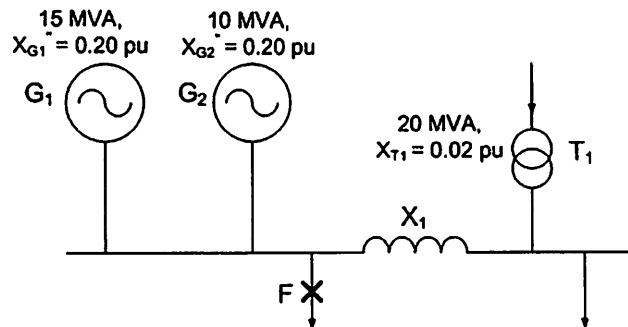

Fig 4.2: source end of a power system comprising of two generators (G_1 and G_2), one transformer (T_1) and a current limiting reactor (X_1)
c) The source end of a power system comprising of two 11 kV generators (G_1 and G_2), one 33/11 kV transformer (T_1) and a current limiting reactor (X_1) is shown in Fig. 4.2. The MVA rating and reactance (in per unit of respective rating) of each component is shown on the figure. Find the absolute value of the reactance of X_1 in ohms such that the short circuit level for a three-phase fault on the outgoing line at point F does not exceed 300 MVA. Choose 15 MVA as the common system base. Neglect pre-fault current and assume 1.0 pu pre-fault voltage everywhere in the system.